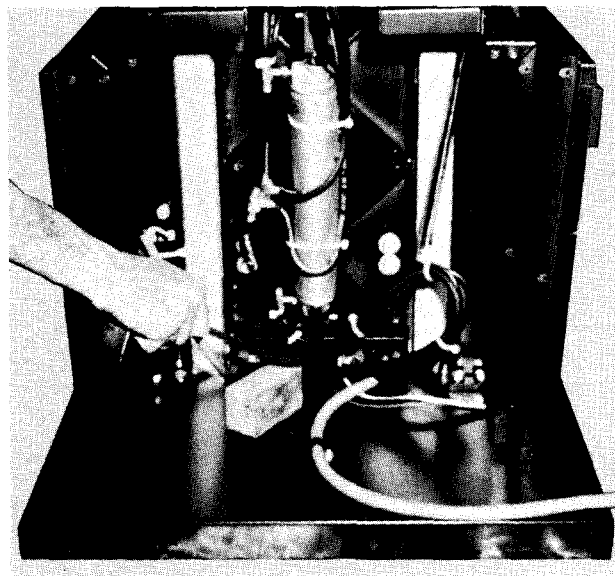

Fig. 28
- 5) Have an assistant pry up on the sliding member directly under the tilt cylinder to take the weight off the clevis pin rod end so the pin may be removed. See Fig. 28.
- 11) Have an assistant pry up on the sliding member directly under the tilt cylinder enabling the clevis pin (rod end) to be inserted and clip installed. See Fig. 28.